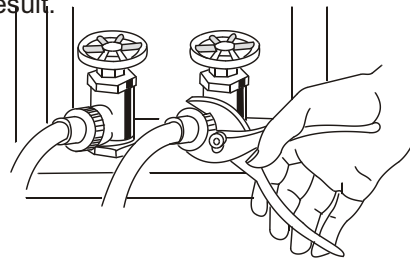

Figure 3
2. Respectively attach the water inlet hoses to the hot water faucet and the cold water faucet. Using pliers, tighten the coupling. ( As figure 3)